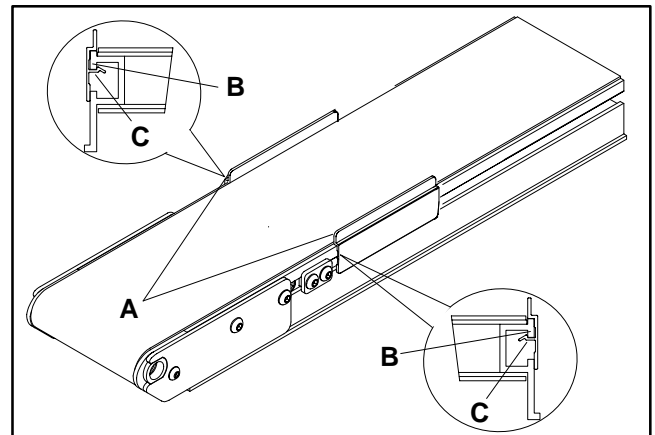

Figure 2
4. All low side conveyors without optional guiding, have factory installed belt tracking guides (A of Figure 2) installed on both ends of conveyor. Each guide is a 3.5" (89 mm) long piece of formed plastic which snaps onto the portion of the conveyor sidewall (B) above the T-slot channel.
- a. **To remove guide** from conveyor sidewall, apply a slight outward and downward finger-pressure on one top corner of guide and gradually peel it off conveyor sidewall (B).
- b. **To install guide** onto conveyor sidewall, first place lower lip (C) of guide against upper edge of conveyor sidewall T-slot channel. Apply inward and upward pressure to completely snap it into place.
**NOTE:** Use belt tracking guides (A of Figure 2) during initial conveyor start-up for tracking conveyor belt, as necessary. Guides may be left on or removed, after start-up. Be sure to save belt tracking guides for start-up after belt cleaning or replacement.
2. If not already installed, install belt tracking guides on both ends of low side conveyors. Refer to Figure 2 on page 3.